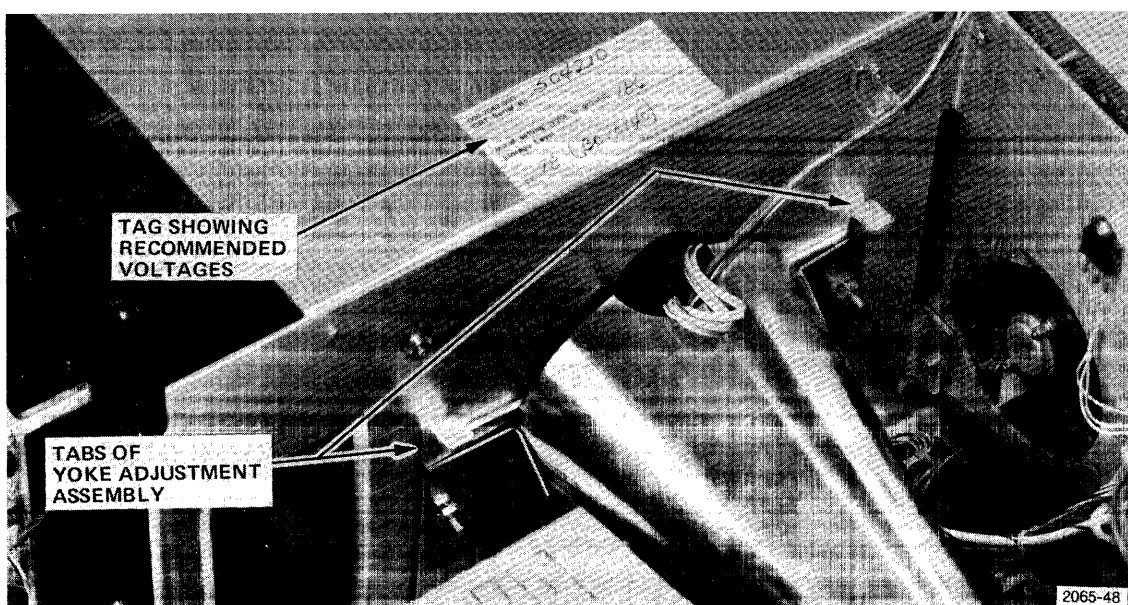

Fig. 4-4. CRT shielded with tag showing recommended electrode voltages. The deflection yoke adjustment tabs are also illustrated.
2. Remove J50, which will disable the high voltage generator. Place a voltage probe to J58-3. Power up, and adjust R359 for a collimation electrode voltage of about  $85\text{ V}$ , or as specified on the crt shield (Fig. 4-4).
11. Now, move the origin shift strap option (located just above J56) to the CAL position. If the display pattern is tilted, the yoke must be rotated. This is done by loosening the two 11/32" Hex nuts which secure the yoke (Fig. 4-4). By means of the two tabs (one projecting from either side of the yoke) rotate the yoke while running the alignment program just keyed. After proper alignment, fasten the nuts, being careful to not disturb the yoke position in doing so.